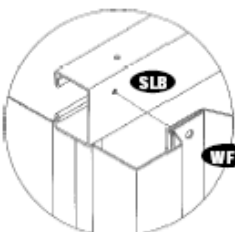

Fig.1
9. Place the sliding channel left (SLB) on top of the wall panel (WFL) from inside. See the position in fig.1. Line up the holes with wall panel use (S1) screws with washers to fix. See fig. 2